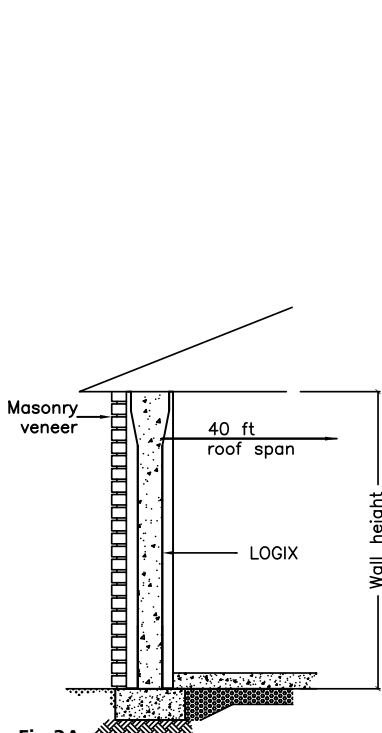

Fig 3A
- One storey LOGIX supporting wood roof frame (Fig. 3A)
The above-grade tables shall be used in conjunction with the notes listed below, the building limitations noted in the "Reinforcement Tables" section, and Figures 3A-H to 3B-H, which form the basis of this table.